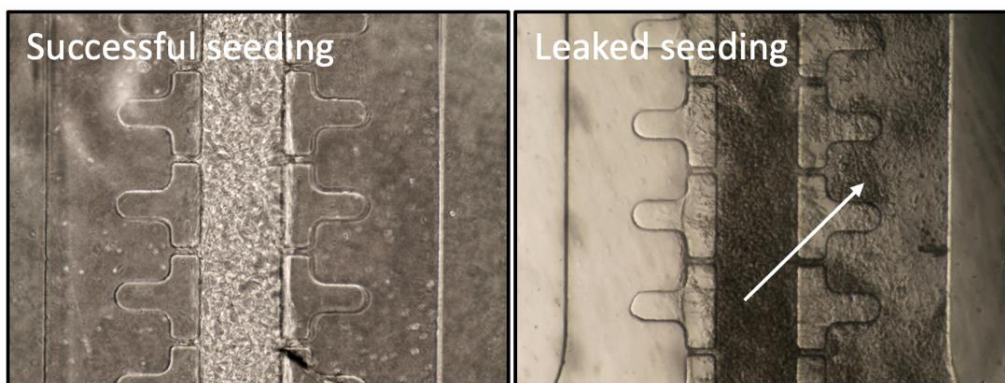

Figure 7 – Examples of successful and leaked seeding.
- f) Check under an optical microscope the outcome of the seeding. As shown in Figure 7, the seeding is successful when the cell-laden hydrogel is confined between the two rows of pillars, without leakages towards the lateral channels. Leakage may occur when an excess of pressure is applied while injecting the hydrogel solution inside the platform. Indeed, we suggest maintaining the same pressure on the pipette while injecting the cell-laden hydrogel in each channel.